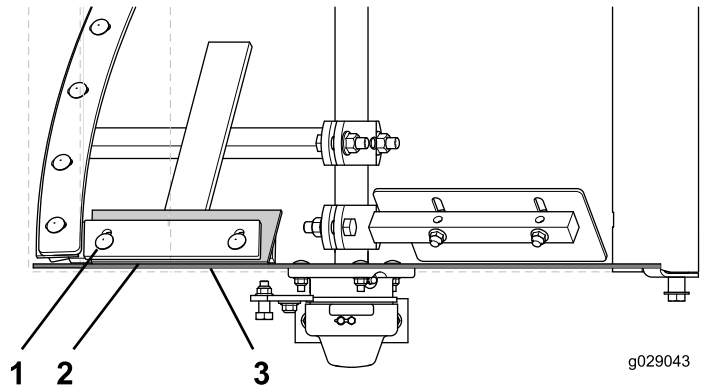

Figure 47
4. Loosen the carriage bolts and flanged locknuts that secure the paddle blade and wiper to the fixed paddle. (Figure 47)